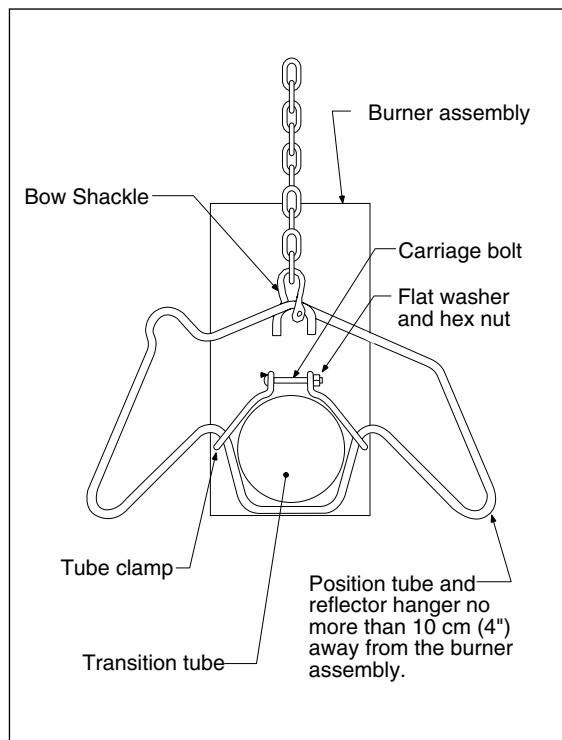

Figure 7. General Arrangement Using Tube Clamp Package
- 5.4.8 Slide another tube and reflector hanger onto the next tube and locate it according to the appropriate Figure. Lift the tube into its position and connect it with the burner tube using a stainless steel coupling. Repeat this procedure to suspend the remaining tube(s) and connect them to the heater one by one. For details of the coupling connection, see Figure 7.